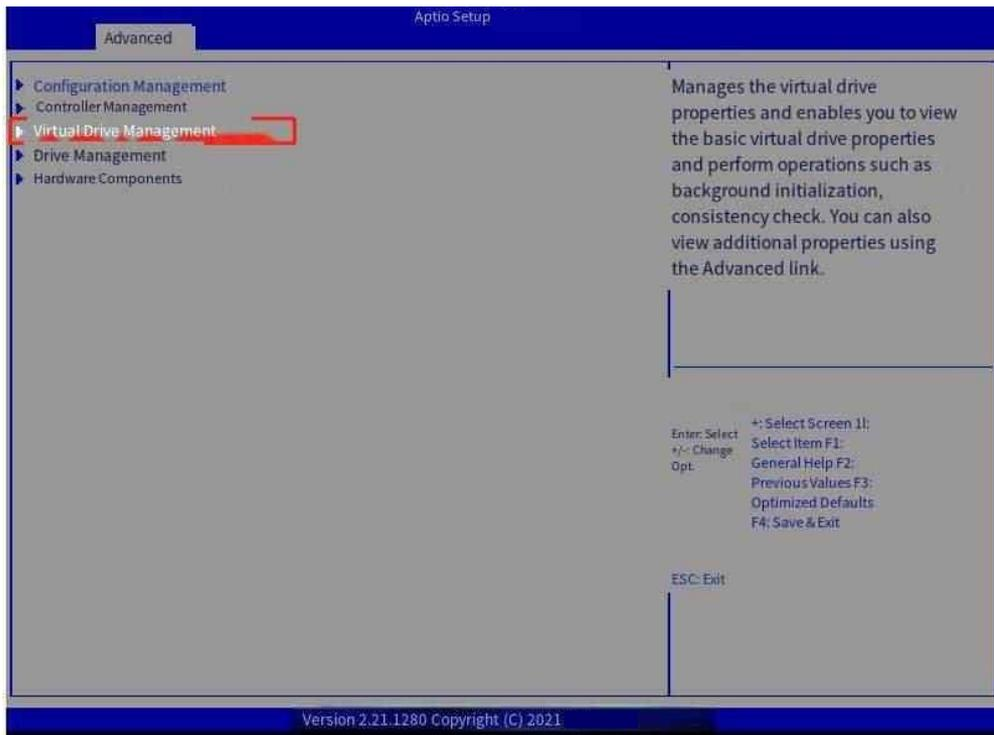

Figure 7-32 RAID home screen
Step 6: Press ESC to return to the upper screen, select Virtual Drive Management and press Enter (Figure 7-32);